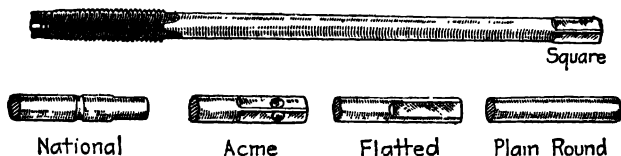

Fig. 9-21. Tapper tap and forms of shank ends.
*Tapper Tap* (Fig. 9-21). This is the name given to the tap whose chief use is in a special nut-tapping machine. The shank is longer